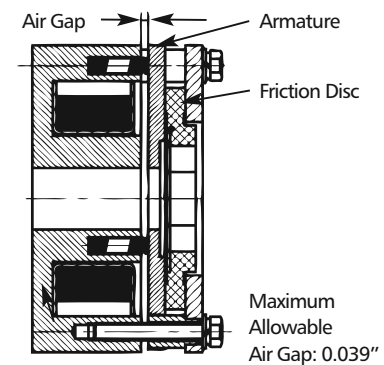

Figure 5 – Checking Brake Gap
3. Check for worn brake disc by measuring the brake air gap with a feeler gauge (See Figure 5). Brake gap larger than the allowable wear limit may cause chatter or failure to release.